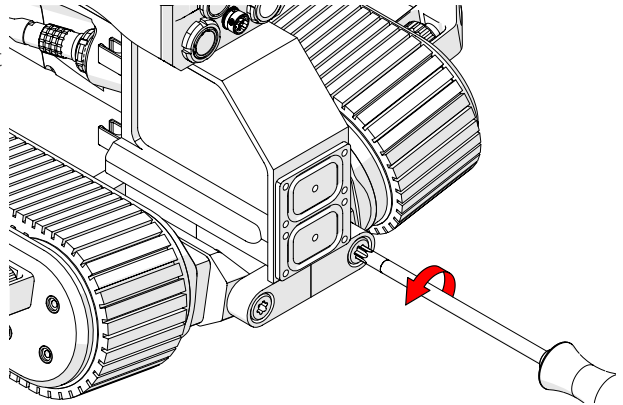

Fig. 86 - Loosen the module pivot bolts
1. Using the T45 driver, loosen the module pivot bolts (Fig. 86).